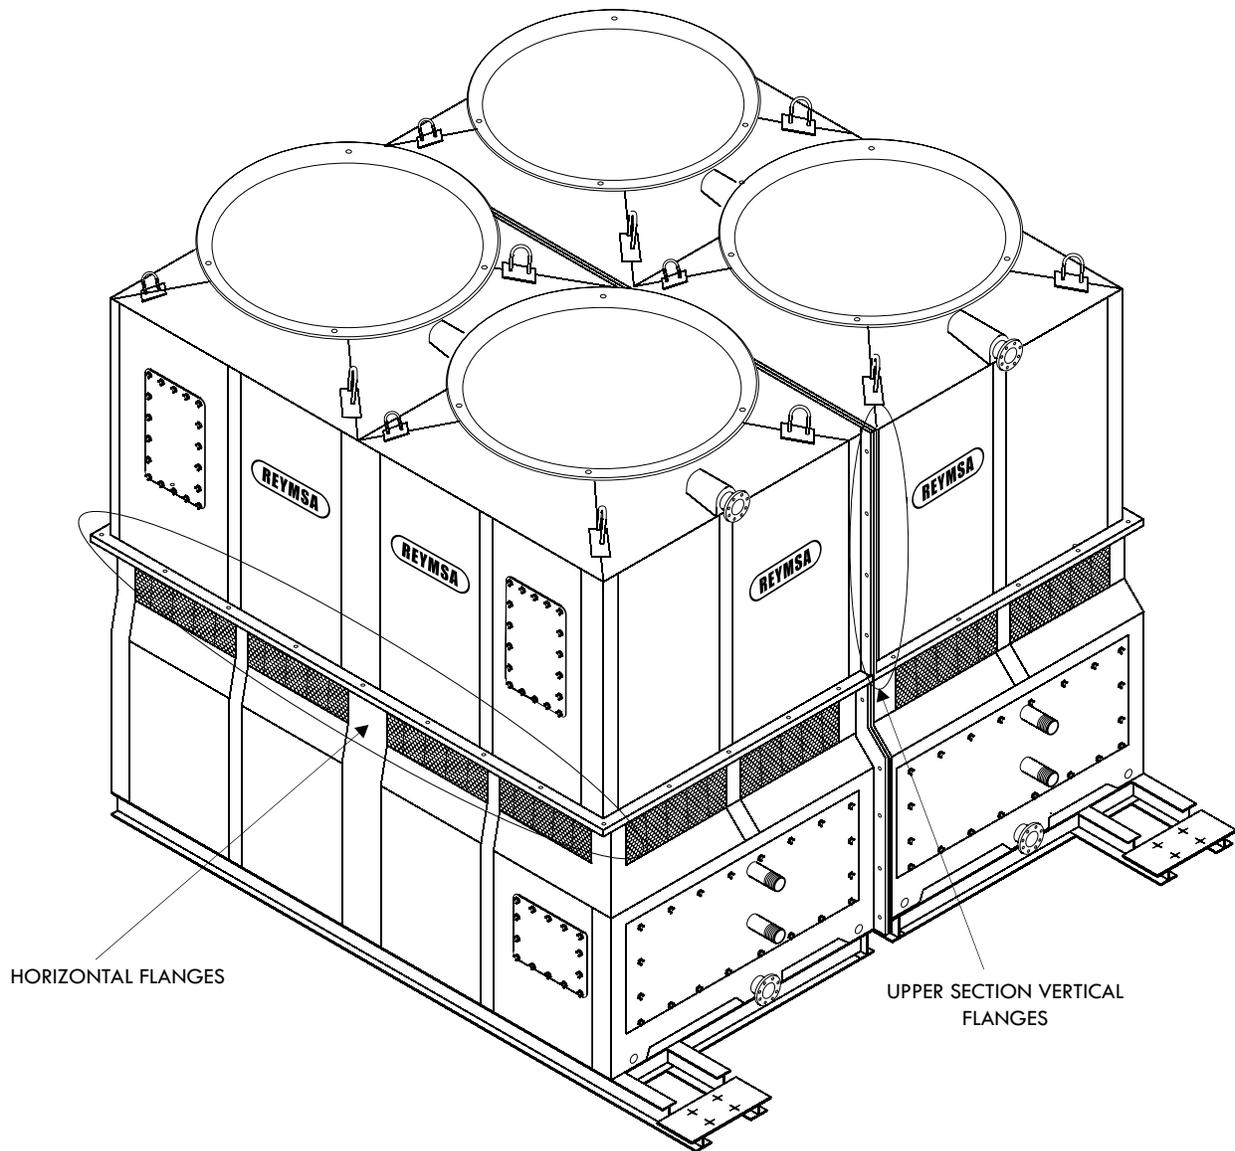

Figure A-25: Upper Section 1 & 2 for four fan tower on plane
- L. Now with the two upper sections together, proceed to bolt down and secure horizontal flanges with the stainless steel nut and bolts sets supplied by REYMSA. See Figure A-25.